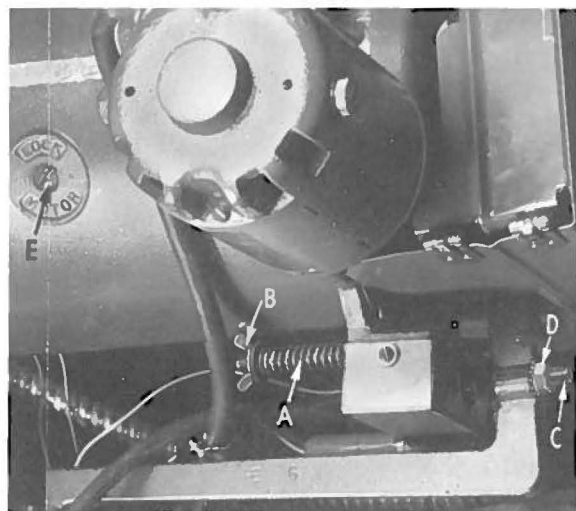

Fig. 37
(b) Adjust clutch arm spring (A, Fig. 37) so that treadle will return to stop (wing nut washer (B) is to be approximately 1/2 inch from end of stud).
(b) Adjust clutch so that clutch arm has approximately 1/16 to 1/8 inch travel before clutch is engaged. Loosen lock screw (E, Fig. 37) (where it says "Lock Motor") just enough to unlock it, which is approximately one full turn. Adjust screw located near the top on right end of motor, until clutch is engaged as described above. Tighten lock screw (E).